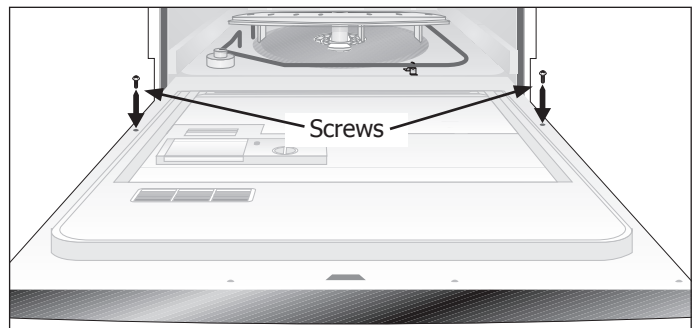

Figure 4-2.
2. Unlatch and open door. Using a Phillips head screw driver, remove two (2) screws from inner door. Save screws to reassemble. (See Figure 4-2)